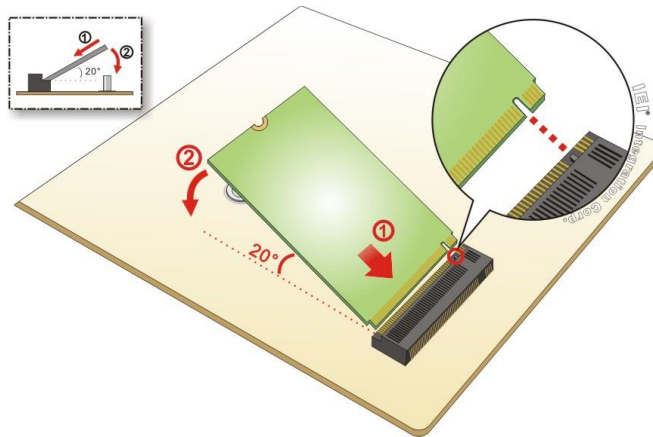

Figure 4-1: Inserting the M.2 Module into the Slot at an Angle
- Step 3:** Line up the notch on the module with the notch on the slot. Slide the M.2 module into the socket at an angle of about 20° (**Figure 4-1**).
Step 2: Line up the notch on the M.2 module with the notch on the slot. Slide the M.2 module into the socket at an angle of about 20°. (See **Figure 4-1**)